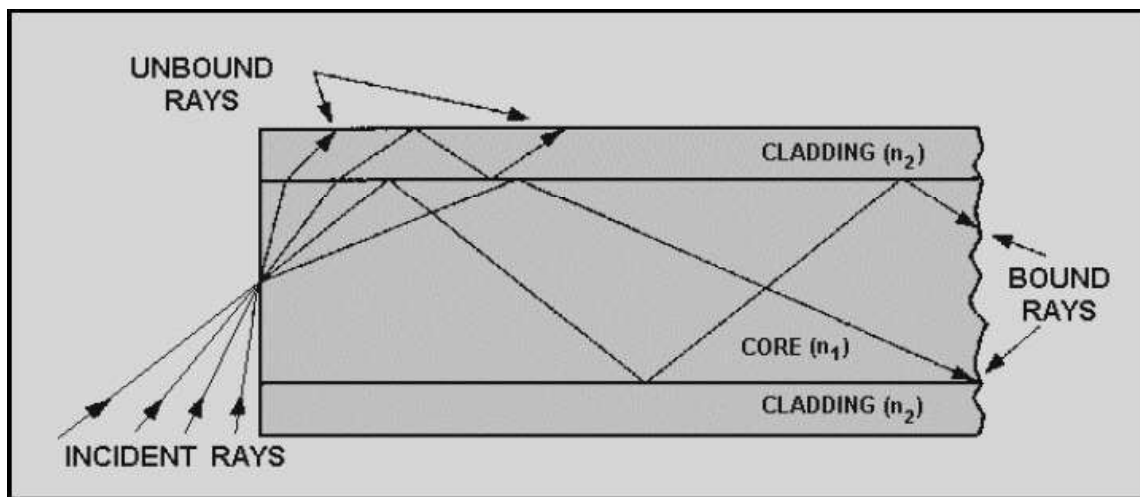

Figure 2-11. - Bound and unbound rays in a step-index fiber
**MERIDIONAL RAYS.**—Meridional rays can be classified as bound or unbound rays. Bound rays remain in the core and propagate along the axis of the fiber. Bound rays propagate through the fiber by total internal reflection. Unbound rays are refracted out of the fiber core. Figure 2-11 shows a possible path taken by bound and unbound rays in a step-index fiber. The core of the step-index fiber has an index of refraction  $n_1$ . The cladding of a step-index has an index of refraction  $n_2$  that is lower than  $n_1$ . Figure 2-11 assumes the core-cladding interface is perfect. However, imperfections at the core-cladding interface will cause part of the bound rays to be refracted out of the core into the cladding. The light rays refracted into the cladding will eventually escape from the fiber. In general, meridional rays follow the laws of reflection and refraction.